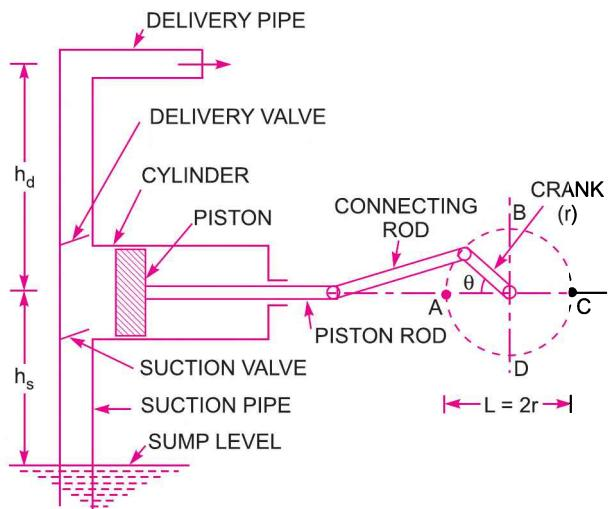

Fig. 20.1 Main parts of a reciprocating pump.
The following are the main parts of a reciprocating pump as shown in Fig. 20.1 :
Fig. 20.1 shows a single acting reciprocating pump, which consists of a piston which moves forwards and backwards in a close fitting cylinder. The movement of the piston is obtained by connecting the piston rod to crank by means of a connecting rod. The crank is rotated by means of an electric motor. Suction and delivery pipes with suction valve and delivery valve are connected to the cylinder. The suction and delivery valves are one way valves or non-return valves, which allow the water to flow in one direction only. Suction valve allows water from suction pipe to the cylinder which delivery valve allows water from cylinder to delivery pipe only.
20.3.1 Discharge Through a Reciprocating Pump. Consider a single* acting reciprocating pump as shown in Fig. 20.1.